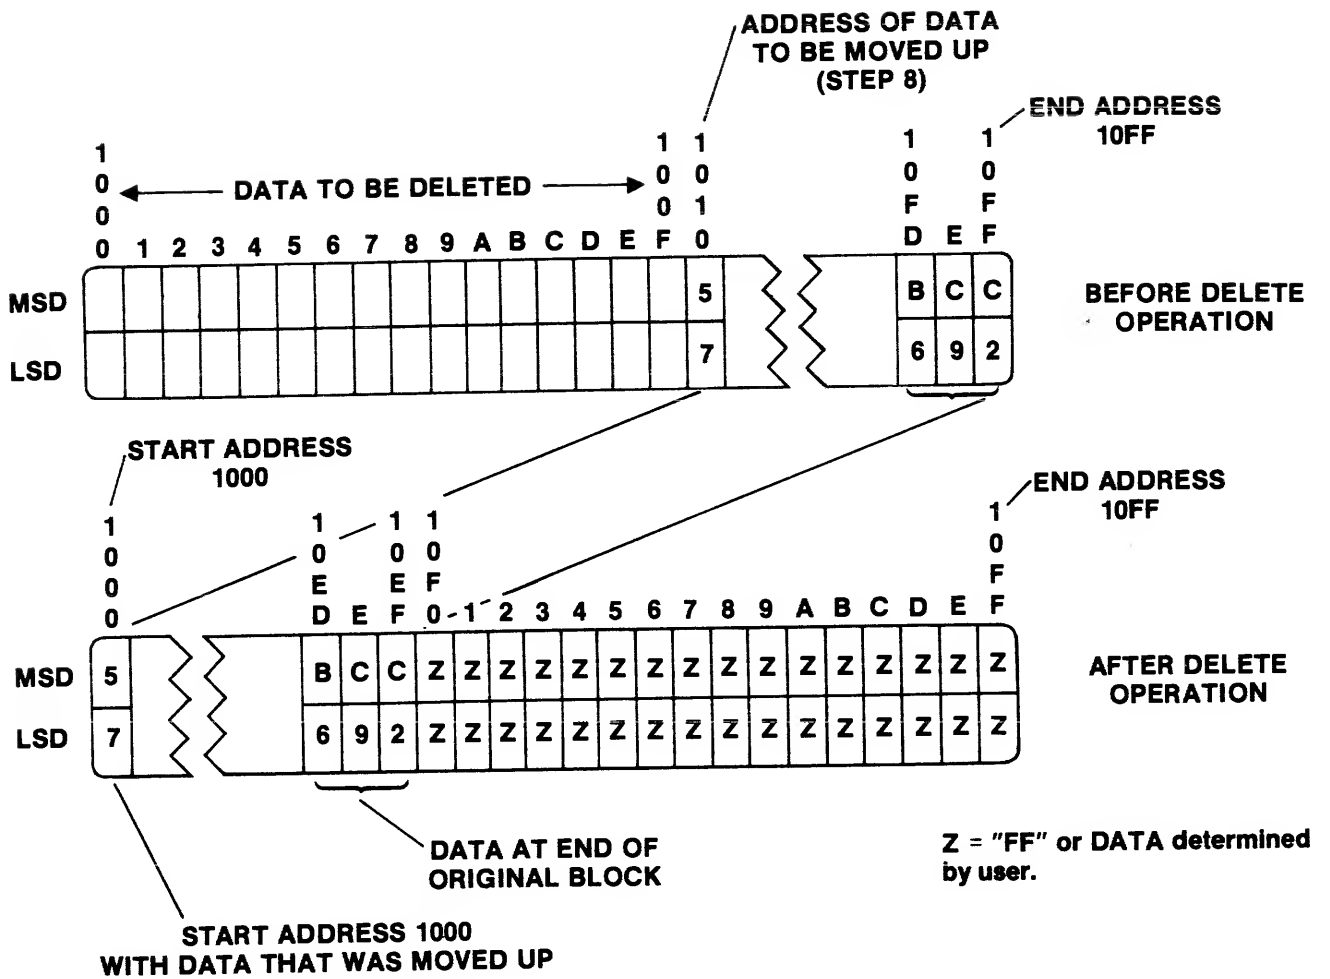

Figure 7-3 — Illustration of Delete Operation
When deleting information, the data locations vacated when all data is moved up, are filled with a user-defined value. The example shown is for deleting locations 1000 through 100F and operating over a block of 256 locations (1000-10FF). The data used to fill in the vacated locations is 00 (See Figure 7-3).
8. Use the keyboard to key in the desired Start Address of the block to be moved up. See Figure 7-3 for additional explanation.